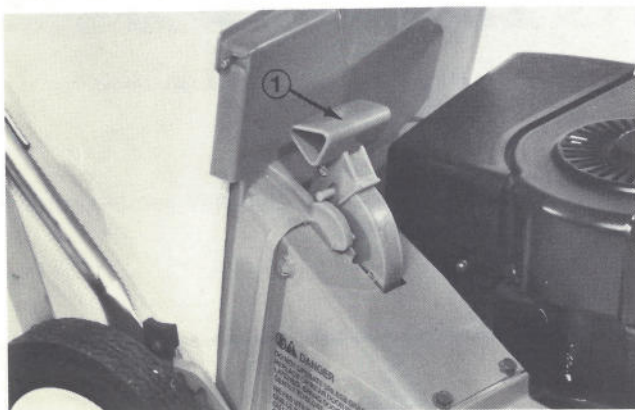

Figure 20
5. Move handle upward until it locks in notch at rear of bag latch (Fig. 20). The door in discharge chute is now open.